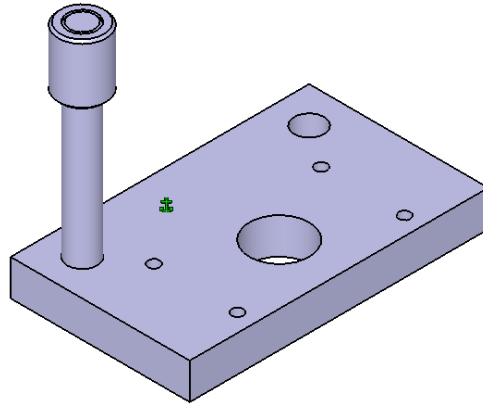

Figure 11-88 Final Guide Bush
4. This completes the feature creation of the Guide Bush as shown in Figure 11-88. Return to the assembly workbench by double clicking on Press tool in the **Specification Tree**.